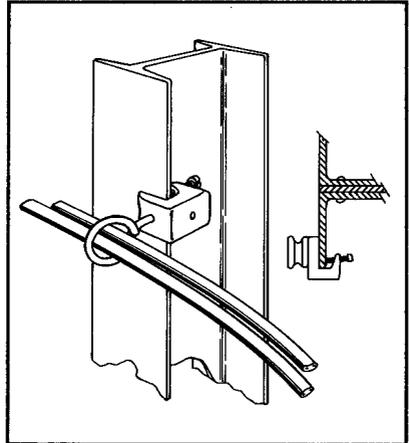

FIGURE 8. Beam Clamp and Bridle Ring
- b. Beam clamps equipped with C or T knobs or bridle rings can be used in various applications to attach to I beams, angle irons, etc. See Figure 8.